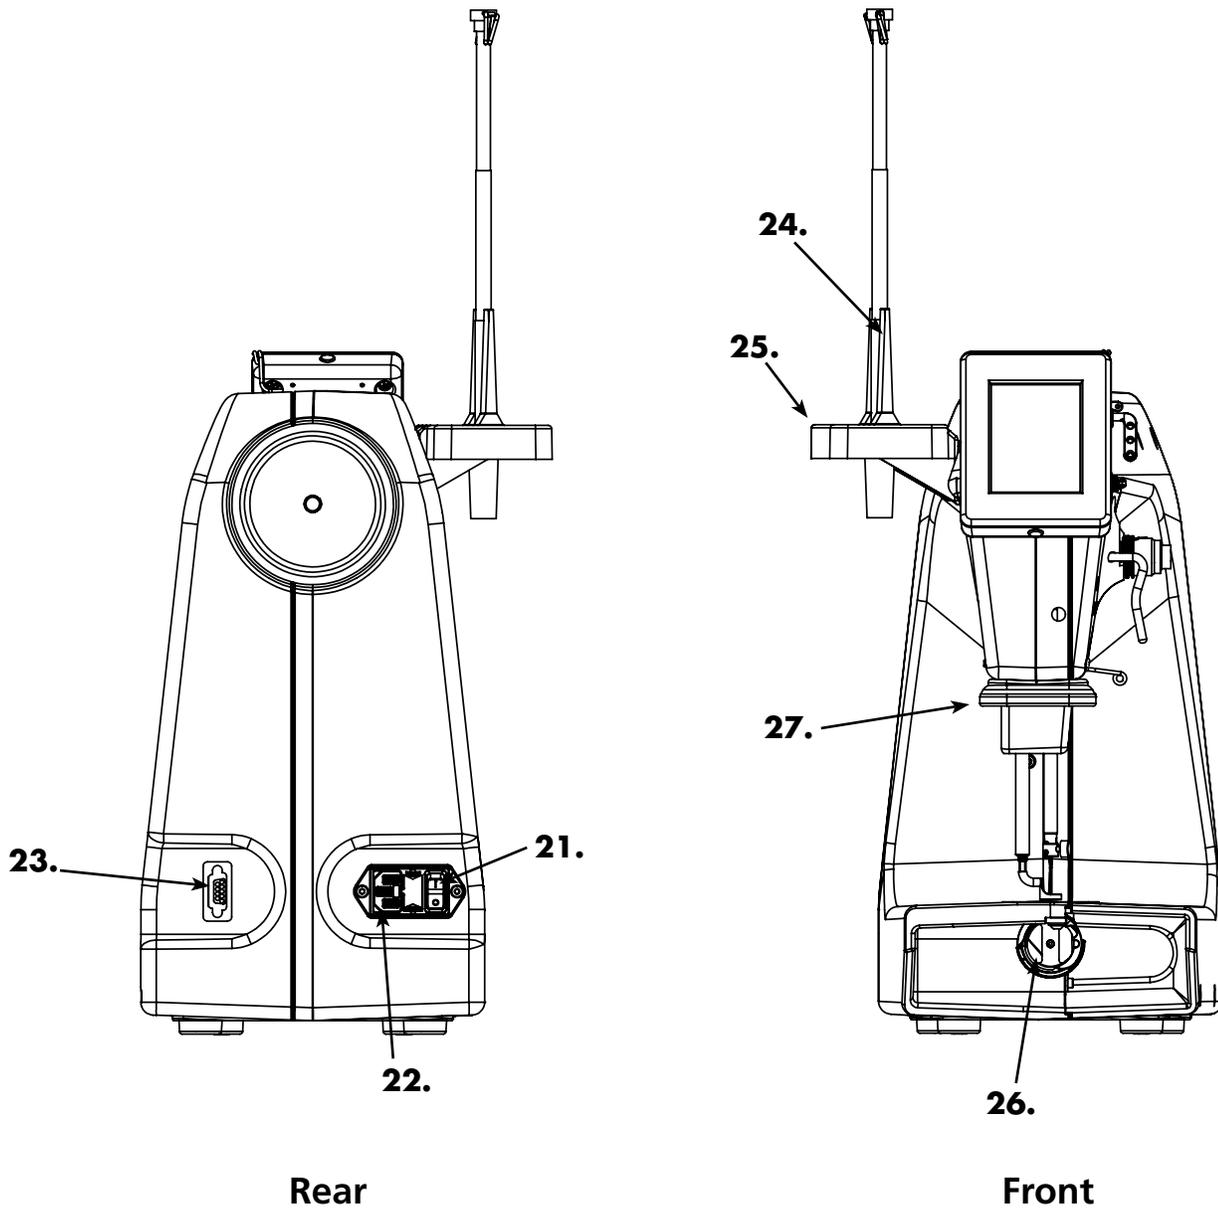

Figure 3
Check that the On/Off switch (page 12, Figure 3, #21) is turned off (the 0 setting). Plug the power cord into the power outlet on the back of the machine (Figure4). Do not plug the power cord into a power source at this time.
1. Plug in the foot pedal cord end into the foot pedal connector (see page 12, Figure 3, #23).